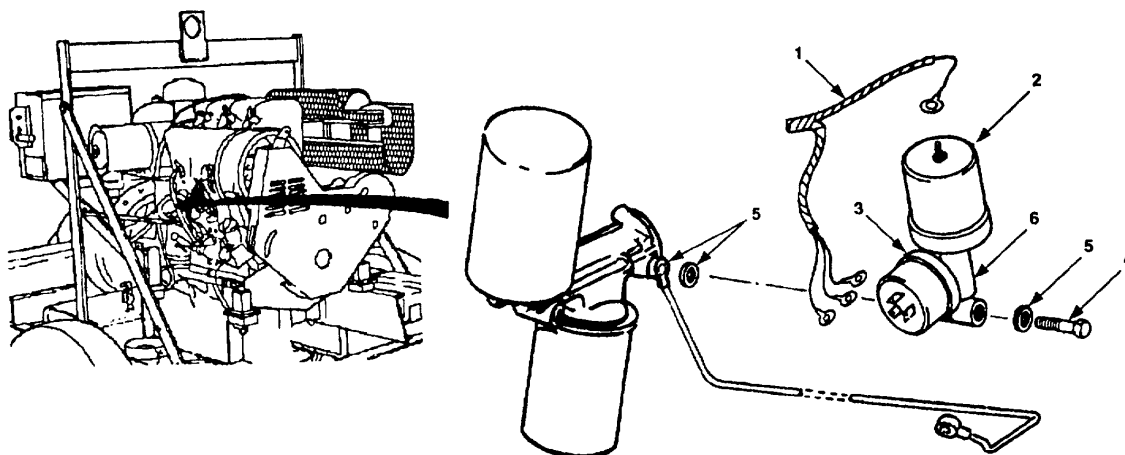

Figure 4-29. Low Pressure Switch and Oil Pressure Sending Unit Maintenance.
- a. Tag and disconnect wires (Figure 4-29, 1) from low oil pressure switch (2) and oil pressure sending unit (3).
- b. Remove banjo bolt (4) and washers (5).
- c. Remove low oil pressure switch (2) and oil pressure sending unit (3) assembly.
- d. Remove low oil pressure switch (2) from tee (6).
- e. Remove low oil pressure sending unit (3) from tee (6).
- b. Install low oil pressure sending unit (3) to tee (6).
- c. Install low oil pressure switch (2) to tee (6).
- d. Using washers (5) and banjo bolt (4), install oil pressure assembly.
- e. Connect wires (1) to low oil pressure switch (2) and oil pressure sending unit (3). Remove tags.